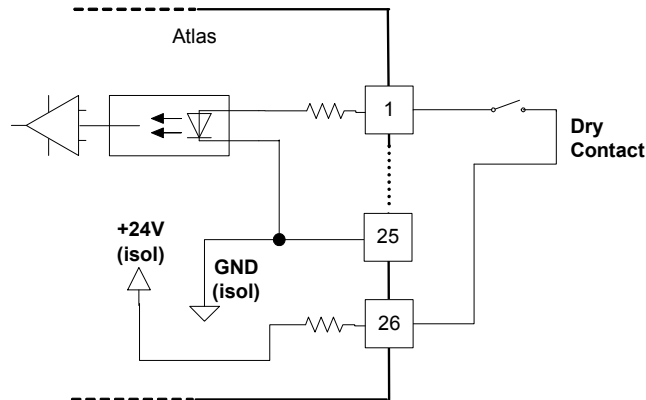

Figure 6-9. Wiring Example—Discrete Input Interface to the SmartCore Board
- Refer to Figure 6-9 for discrete input wiring.